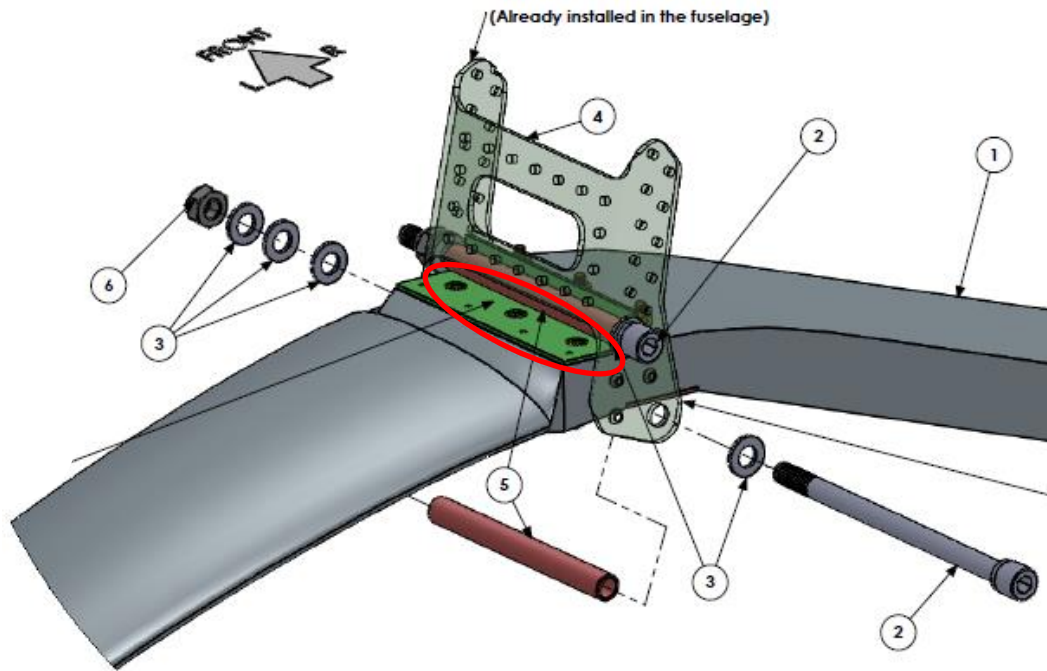

Figure 6: Main landing gear plate machine screws.
4.1	Follow the procedure outlined in 4.4.1.6 to remove the main landing gear. Thoroughly examine the main landing gear for cracks spanning its entire length up to the centreline. Check condition of screws on the main landing gear plate outlined in Figure 6: Main landing gear plate machine screws. Replace main undercarriage attachment hardware.